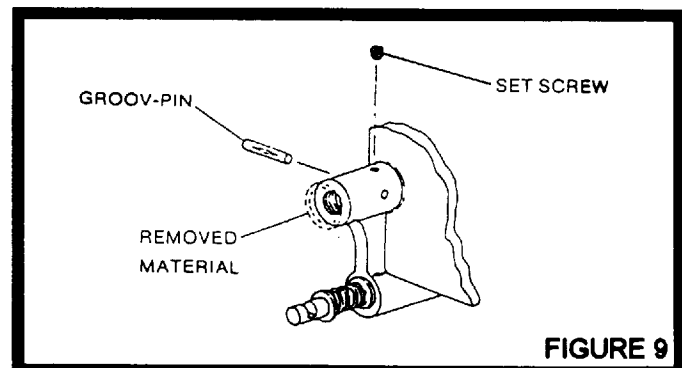

FIGURE 9
- 88) NOTE: Precaution must be taken when removing the casting material so that the squareness of the counterbore face is not disturbed. (See Figure 9).